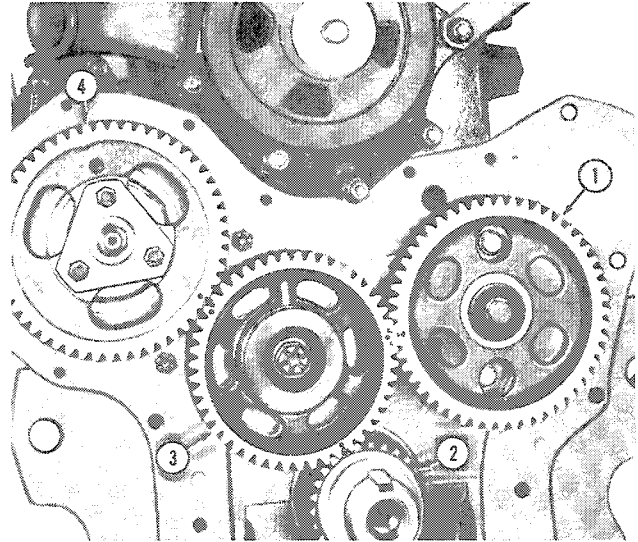

Figure 22
6. Before removing the timing gears, Figure 22, use a dial indicator or feeler gauges, to measure the backlash between each set of mating gears, Figure 23. Rotate the gears and check the backlash at four equidistant points on the gears. Install new gears if the backlash exceeds the specified limits see "Specifications" — Chapter 3.